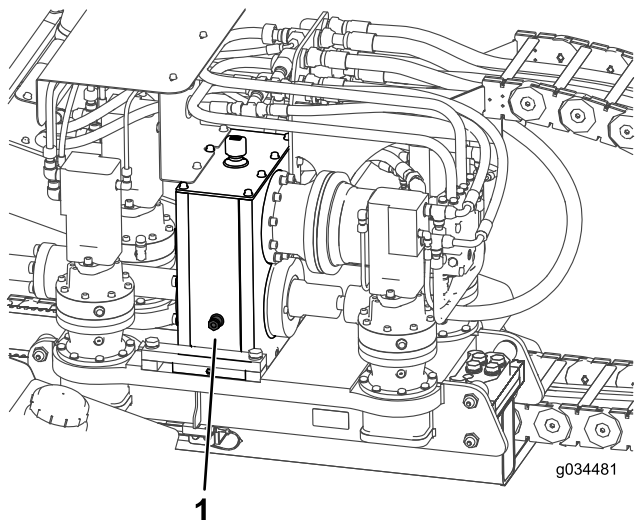

Figure 106
2. Check the oil level on the sight-glass on each thrust motor planetary drive (Figure 106).
3. Remove the breather cap and add the oil into the planetary drive until the oil level on the sight-glass is at least half full (Figure 106).
2. Check the oil level on the sight-glass on the gearbox drive (Figure 106).
3. Remove the breather cap and add the oil into the gearbox drive until the oil level on the sight-glass is at least half full (Figure 106).
8. Fill the gearbox with oil until the oil level in the sight glass is more than half full (Figure 106).